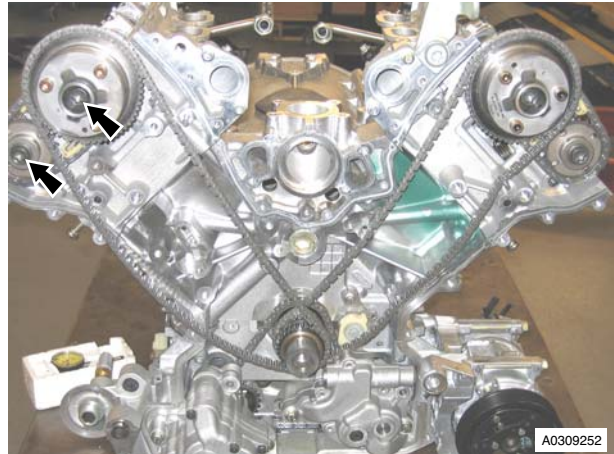

Figure 4
16. Remove Torx bolts (x2), spacer on exhaust Torx bolt, securing RH intake and exhaust camshaft sprockets to camshafts (see Figure 4).